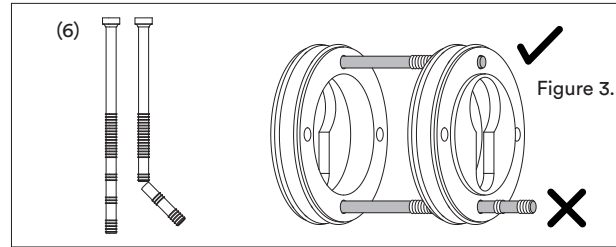

Figure 3.
- 3.2. Ensure to cut so that the screw does not protrude from the opposite rose once installed. (Figure 3)